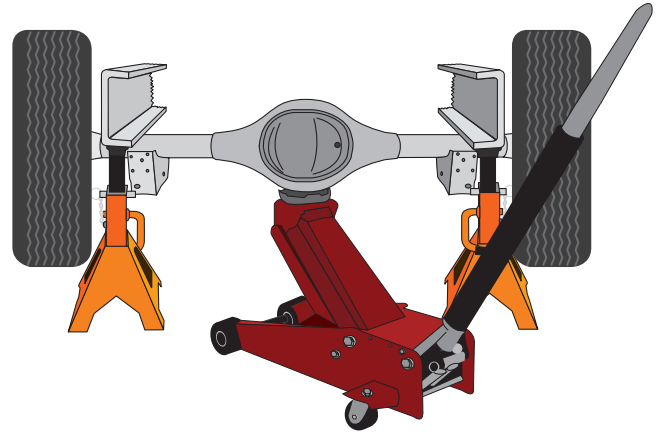

Fig. 2
1. Lift the vehicle up and support the frame with safety stands. Leave enough room to drop the axle down low enough to remove the coil springs (Fig. 2). Remove the rear wheels.